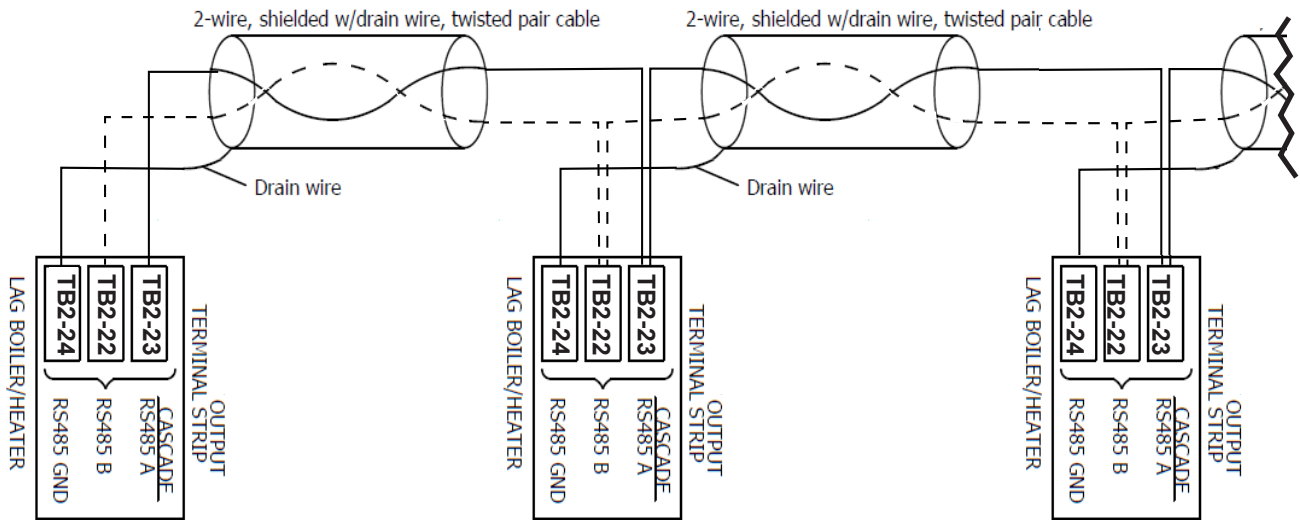

Figure 25. Cascade Wiring Connections
Communication between lead and lag units is accomplished using RS485. When wiring these units for cascade operations, use terminals 23 (A), 22 (B), and 24 (GND) of the output terminal strip. Use 2-wire twisted pair, shielded w/drain (communication cable) between units. Refer to Figure 25. Connect one wire of the communication cable to A (terminal 23), and the other wire to terminal B (terminal 22), and the drain wire to GND (terminal 24). Connect the other end of the cable to the next unit, matching the termination wiring on the previous unit, except for